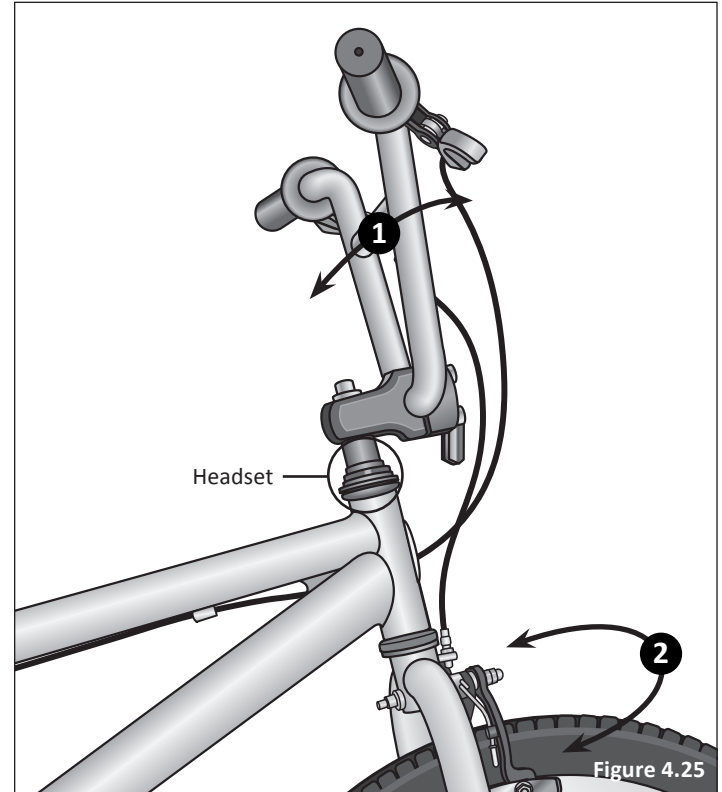

Figure 4.25
- 1 Shakiness:** Apply the front brake and push the handlebars back and forth, front to back. Or if the bicycle is on a workstand and the front wheel removed, push and pull on the forks. If you feel a knocking sensation or "clunk" it means the headset is too loose. **Figure 4.25**